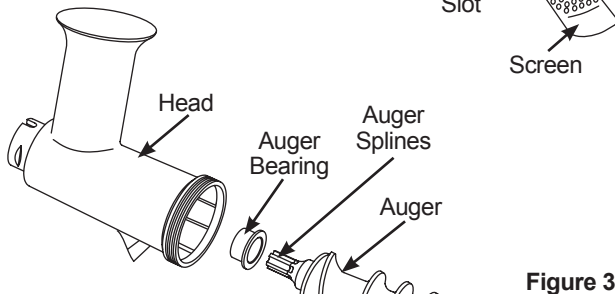

Figure 3
2. Place the **Auger Bearing** onto the splined end of the **Auger**. Insert the **Auger** into the open end of the **Head** until it stops. The splines on the end of the **Auger** should protrude from the opposite end of the **Head** (Figure 3).